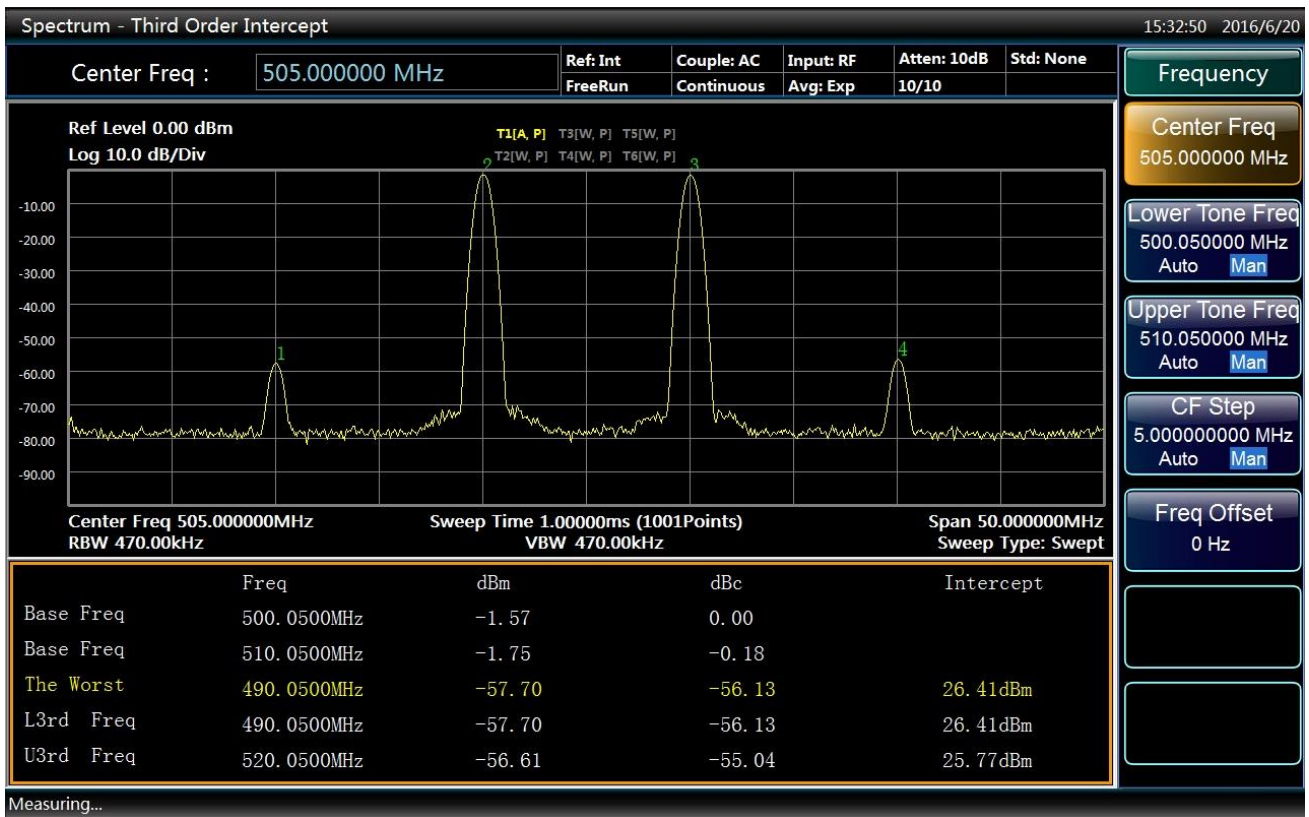

Fig. 4.79 Results of Three-order Intermodulation Measurement
- Results of third-order intermodulation measurement are shown in Fig. 4.79. Text window shows the fundamental frequency and power, and third-order inter-modulation frequencies and power, and gives third-order intercept values.